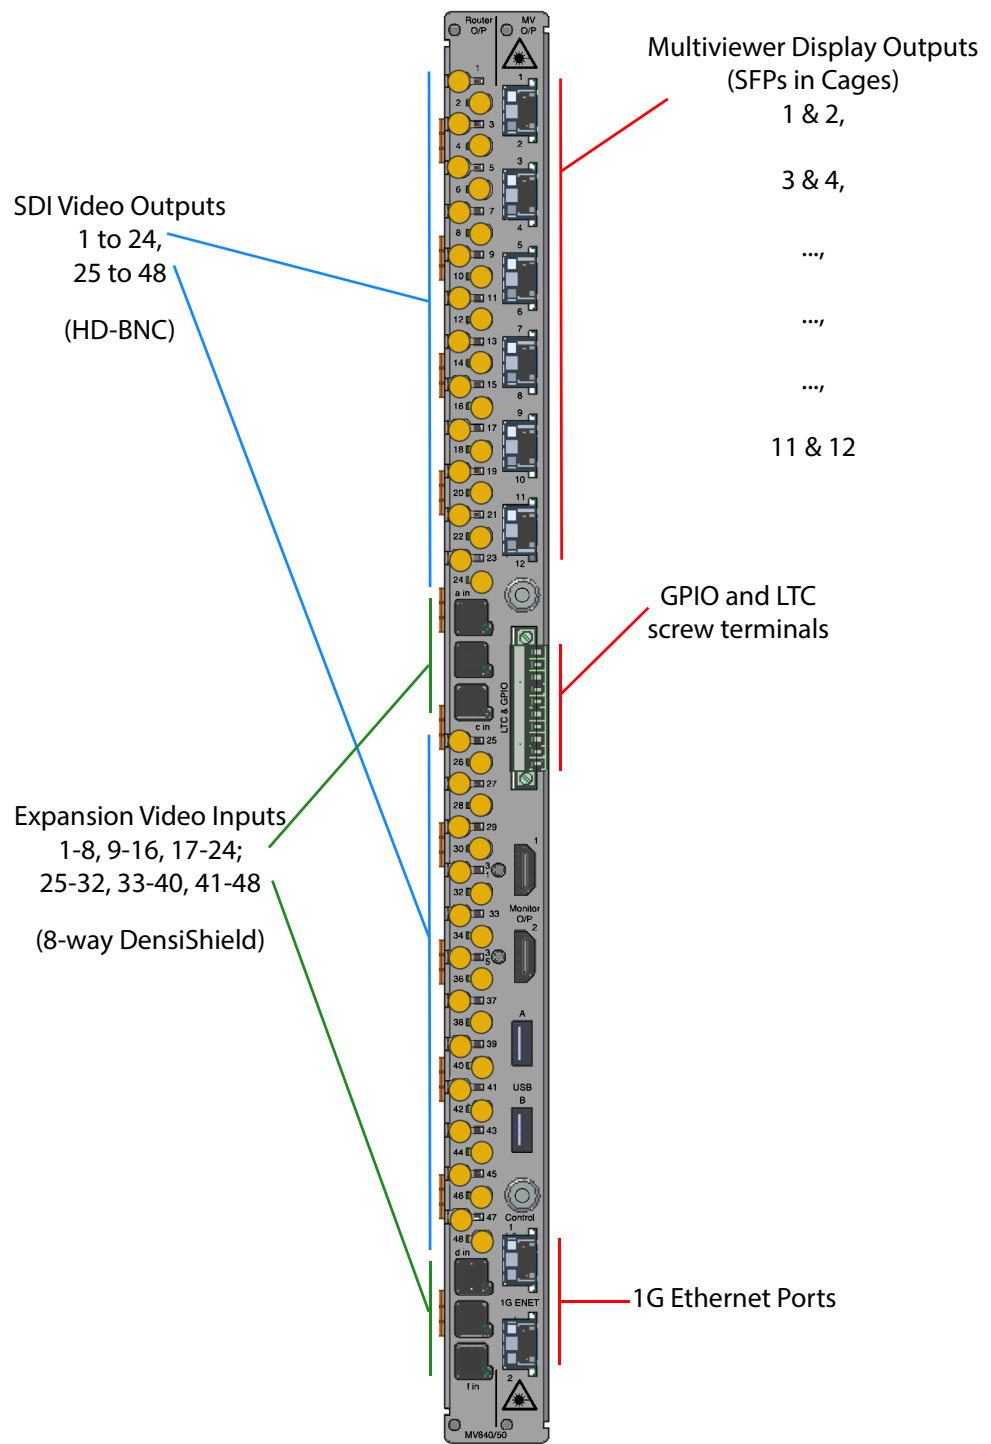

Figure 27 MV-840/850 Multiviewer Rear Panel Connections
Now that the MV-840/850 Multiviewer hardware is fitted, some cable connections need to be made. Figure 27 shows the connections that need to be made.
1. Connect the MV-840/850 directly to a computer network port via 1G Ethernet port 1 (see Figure 27) using a standard CAT 5e Ethernet cable.